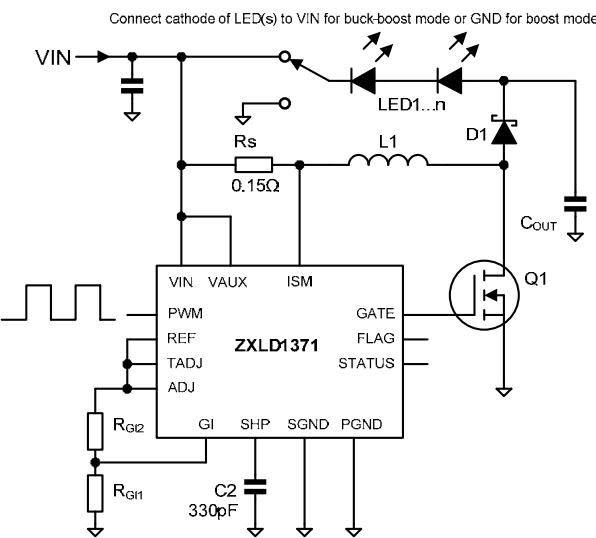

Figure 3. Boost and Buck-boost configuration
b) Boost and Buck-Boost modes – the most simple boost/buck-boost circuit is shown in Figure 3.
The average current in the LED, I_{LED} , is always less than I_{RS} . The feedback control loop adjusts the switch duty cycle, D , to achieve a set point at the sense resistor. This controls I_{RS} . During the interval t_{OFF} , the coil current flows through D1 and the LED load. During t_{ON} , the coil current flows through Q1, not the LEDs. Therefore the set point is modified by D using a gating function to control I_{LED} indirectly. In order to compensate internally for the effect of the gating function, a control factor, GI_ADJ is used. GI_ADJ is set by a pair of external resistors, R_{GI1} and R_{GI2} . (**Figure 3.**) This allows the sense voltage to be adjusted to an optimum level for power efficiency without significant error in the LED controlled current.